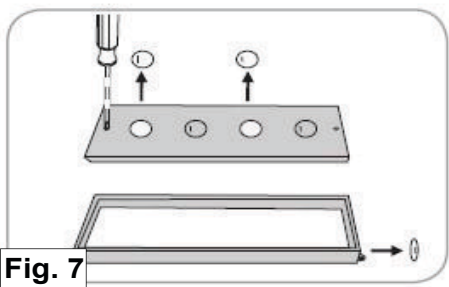

Fig. 7
7. Remove electrical enclosure cover from fixture (Fig. 7).
Remove desired knockouts. (Fig. 7).